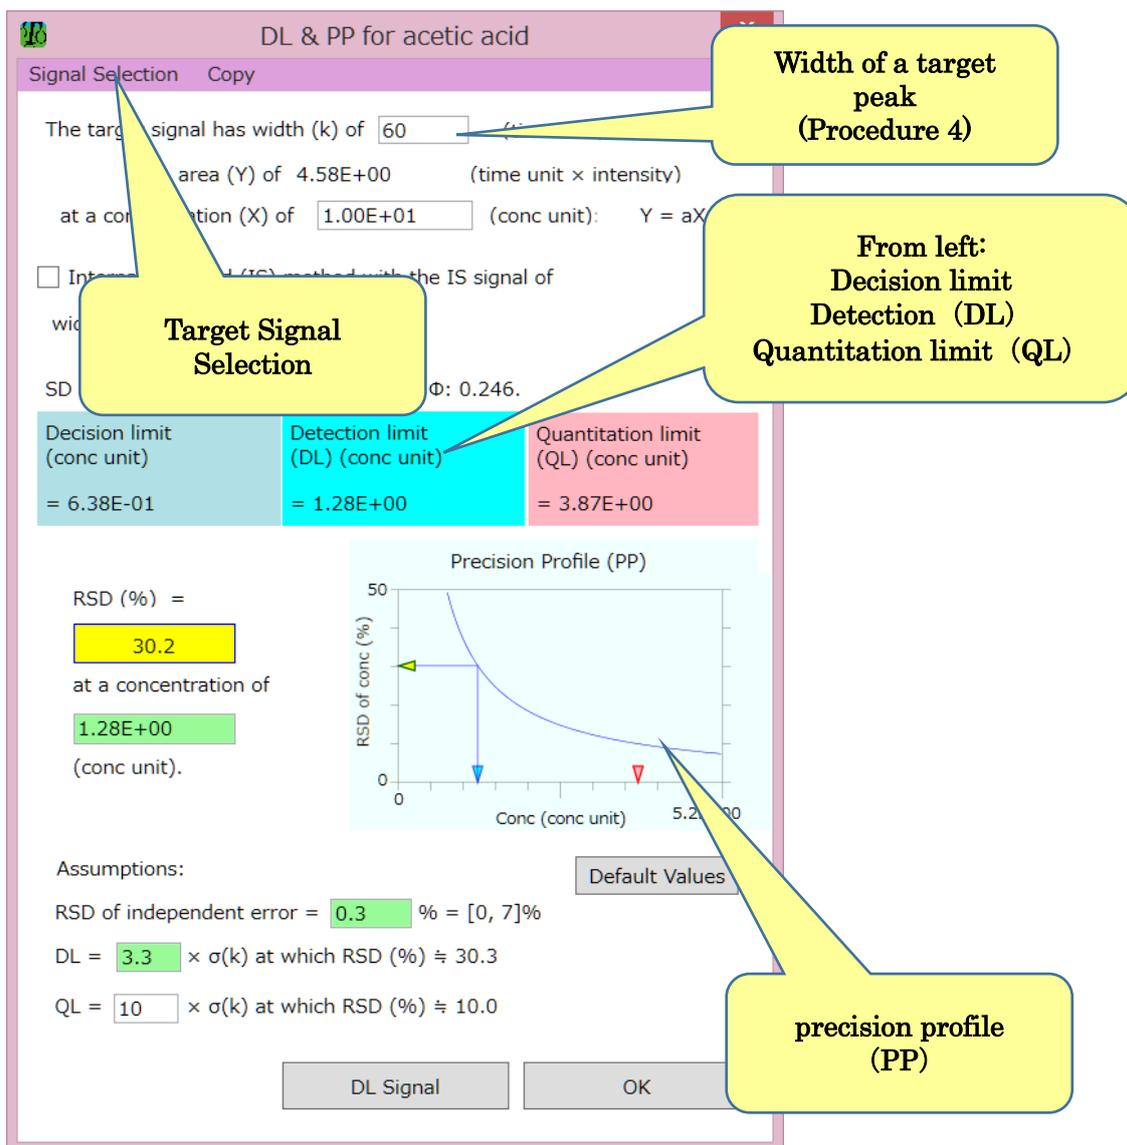

Figure 8 --- DL & PP ..... window
5. press the OK button to obtain analytical results in the DL & PP…… dialog box (see Fig. 8).
- If the DL & PP …… window (Fig. 8) appears just after procedure 2, see 2.4;
4. press the Detection Limit (DL) button to obtain analytical results in the DL & PP ..... window (see Fig. 8).
- click the Target Signal Selection menu in the DL & PP ..... window (see Fig. 8) and select a target peak (see procedures 3-5 of 2.3);
In chromatographic analyses, the RSD (%) of sample injection errors needs to be input into the green text box on the right side of “RSD of independent error” (see Fig. 8 or 11).